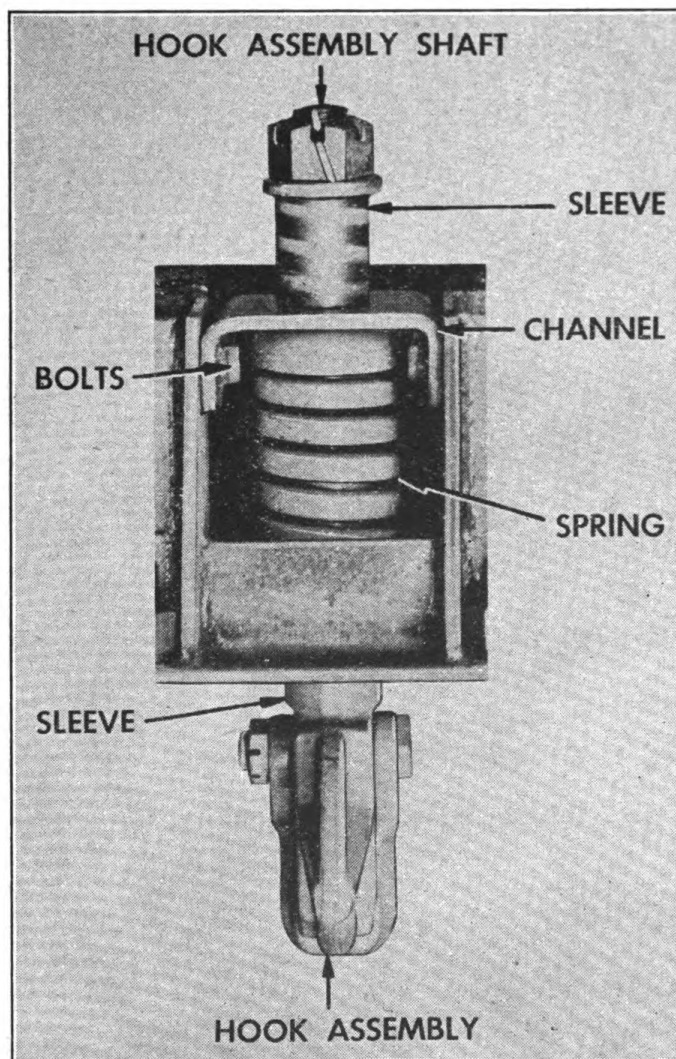

FIGURE 67. PINTLE HOOK.
1. **REMOVAL** (Fig. 67).—*a.* The pintle hook is bolted to a mounting plate at rear of trailer. By removing the nut and washer from hook shaft, the hook assembly can be pulled out of sleeves and spring which are held within the box section.
4. PINTLE HOOK SPRING AND SLEEVE, REMOVAL (Fig. 67).